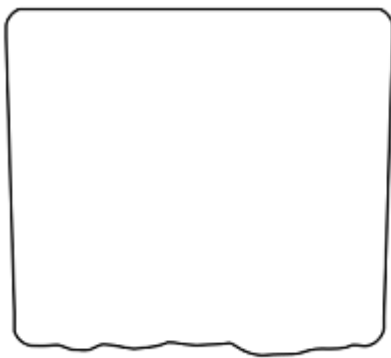

Fig. 7: Aperture with mill radius and smoothing
4. figure 7: shows a resulting aperture shape with a large mill radius applied to the aperture creation parameters and smoothing options using the `compute_smooth_aperture` function.